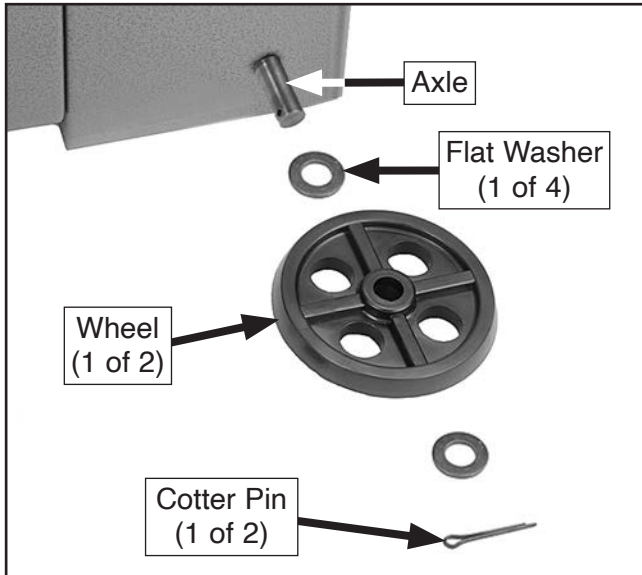

Figure 22. Wheels installed on axle.
9. Slide axle through rear holes in bottom of machine base (see **Figure 22**).
10. Slide (1) $\frac{5}{8}$ " flat washer onto each end of axle, followed by (1) wheel and another washer, then push cotter pin through axle to secure (see **Figure 22**).